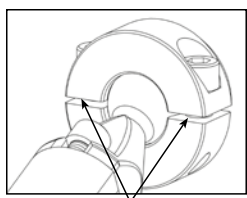

Fig.2A Correct Alignment
- (Fig. 2A, 2B) Even though the knurled balls eliminate unwanted pad movement, the collars must be evenly tightened to reach their full locking strength.